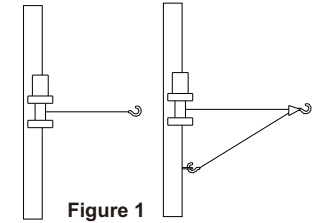

Figure 1
- Never overload. Be sure all equipment used meets the winch's maximum line pull rating. We recommend using the pulley block option supplied to double line the wire rope (see Figure 1). Double line with a pulley block to reduce the load on the winch, wire rope and battery. When double-lining, pulley blocks should be rated to a minimum of two times the winch's line pull rating.